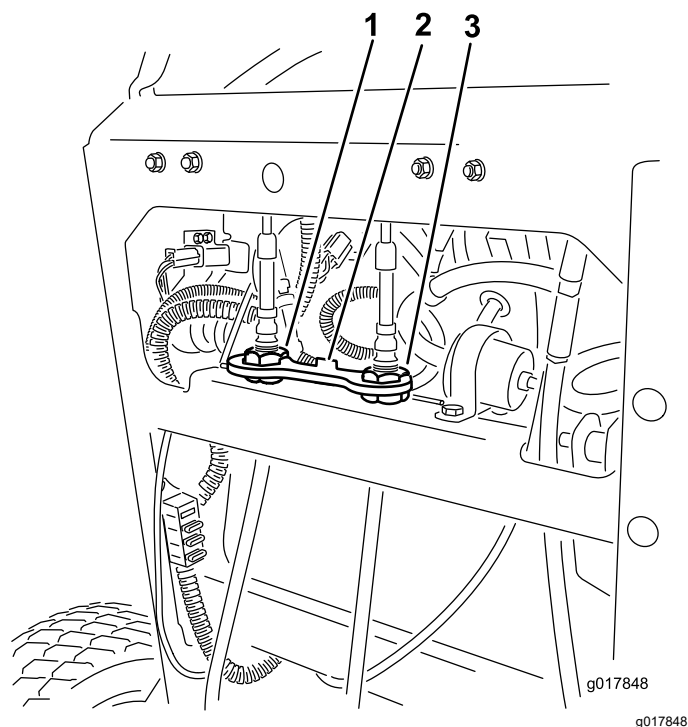

Figure 70
6. Install the cable lock onto the cable-adjusting nuts to secure the adjustment (Figure 70).